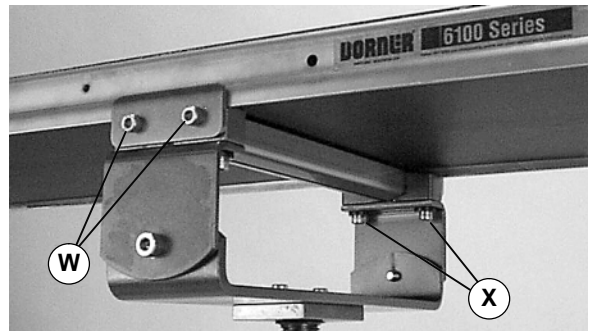

Figure 16
### 3. Attach clamp plates on each side of conveyor (Figure 16). Tighten the screws (W) to 9 Nm.